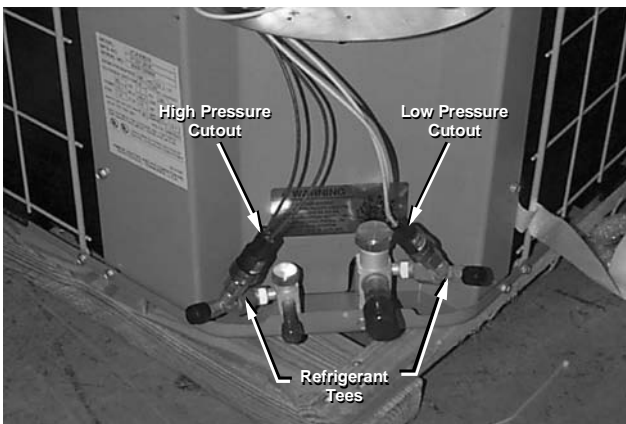

Figure 1
2. Install the PCK refrigerant tees onto the Schraeder fittings (Figure 1). Torque to 10 ft/lbs to avoid refrigerant leaks.